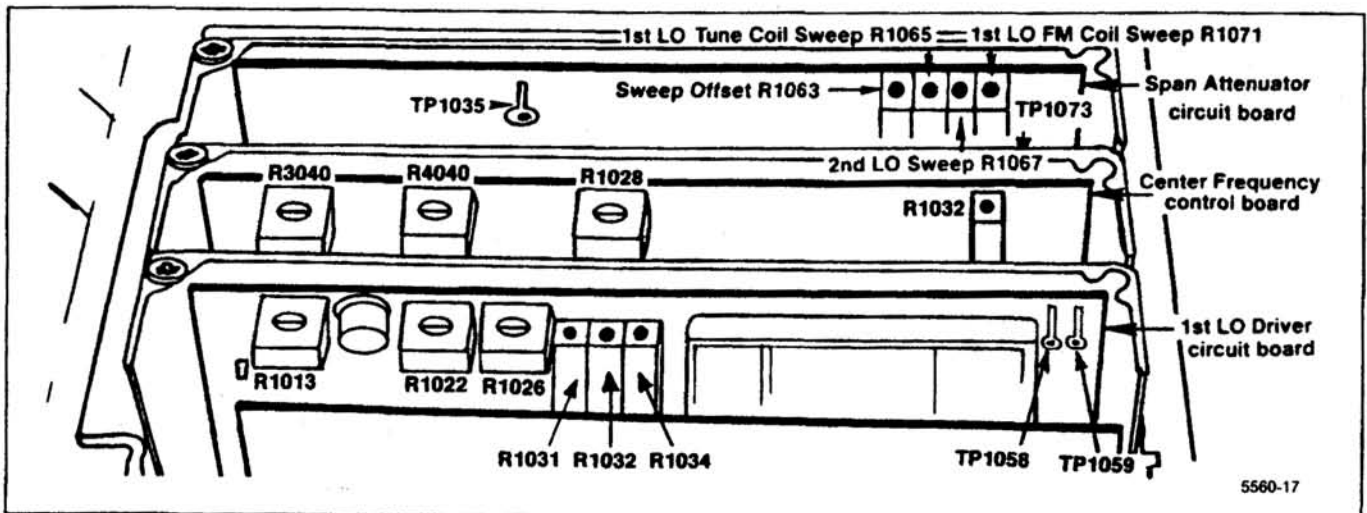

Figure 5-10. Frequency control system test point and adjustment locations.
b. Connect a shorting strap from TP1035, on the Span Attenuator board, to chassis ground (Figure 5-10). Monitor TP1073 on the Span Attenuator board with the voltmeter.
c. Adjust Sweep Offset R1063 (Figure 5-10) for 0.00 V.
d. Remove the shorting strap from TP1035. Press <Blue-SHIFT> PULSE STRETCHER and select item 1 (FREQUENCY LOOPS CAL), then item 0 (OVERALL SYSTEM) from the menus. Perform the calibration steps as directed ("CONNECT A DVM TO TP1058 ON THE 1ST LO DRIVER BOARD AND GROUND"), etc.
(1) If a "CALIBRATION STEP CANNOT BE COMPLETED" message is displayed, bypass the step, perform the other adjustments then return to the adjustment and try to bring the adjustment in range. If the problem persists, refer to Troubleshooting the Frequency Control System, in the Maintenance section.
(1) Apply the CAL OUT signal to the RF INPUT, set the FREQUENCY to 600 MHz, FREQ SPAN/DIV to 100 MHz, and set the REF LEVEL to display the markers.
(2) Adjust Tune Coil Swp R1065, on the Span Attenuator board (Figure 5-10) for one marker per division over the center eight divisions of the graticule. Reset the CENTER FREQUENCY as necessary to align the markers.
(3) Remove the Calibrator signal and apply 0.2 μ s time marks from the Time Mark Generator to the RF INPUT.
(4) Set the FREQ SPAN/DIV to 5 MHz, REF LEVEL to +10 dBm, and FREQUENCY to about 10 MHz.
(5) Adjust the 1st LO FM Coil Swp R1071 (Figure 5-10) for 1 marker/division over the center eight divisions of the display.
(6) Set the FREQ SPAN/DIV to 20 KHz and apply 50 μ s markers from the Time Mark Generator.
(7) Adjust the 2nd LO Sweep, R1067, for one marker/division over the center eight divisions.